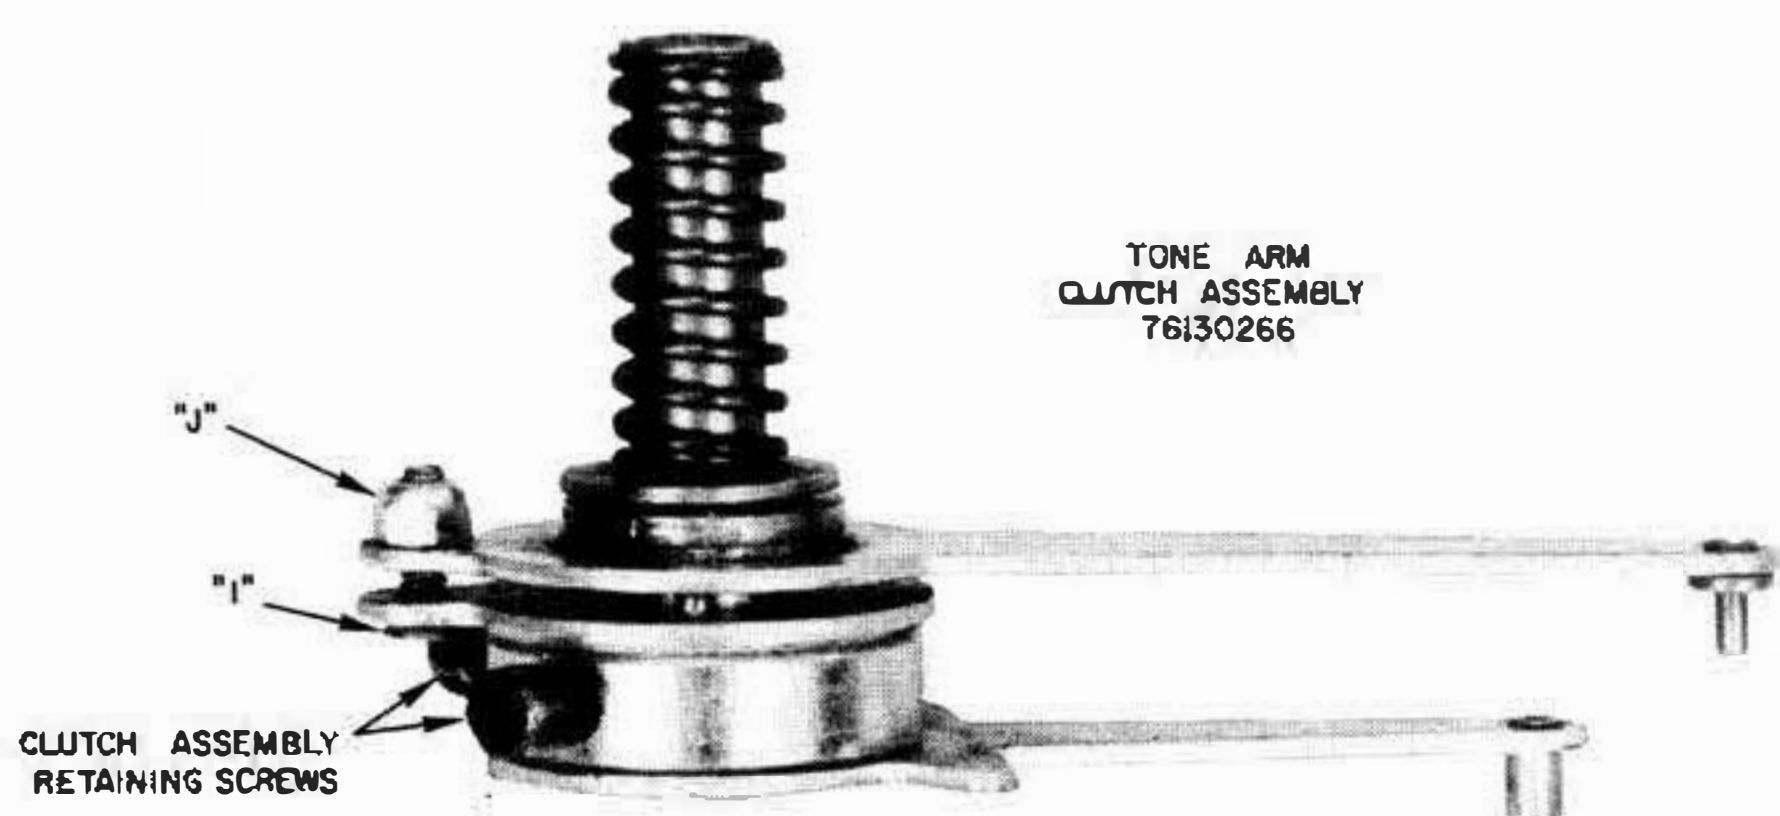

Figure 7
This adjustment is made by rotating screw "I" (Figure 7).
2. Loosen the two screws in Clutch Boss (see Figure 7) and remove Clutch Assembly.